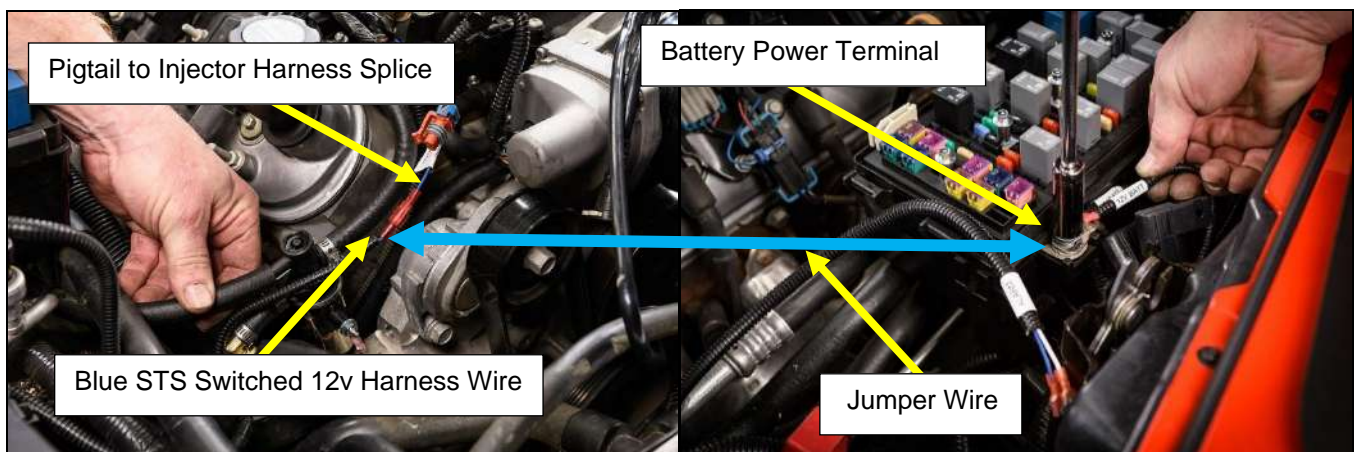

Figure 70
4. Install a jumper wire between the BLUE wire of the STS harness connector and the battery power terminal at the power distribution box (**not the pigtail spliced into the injector power wire**). See **Figure 70**.